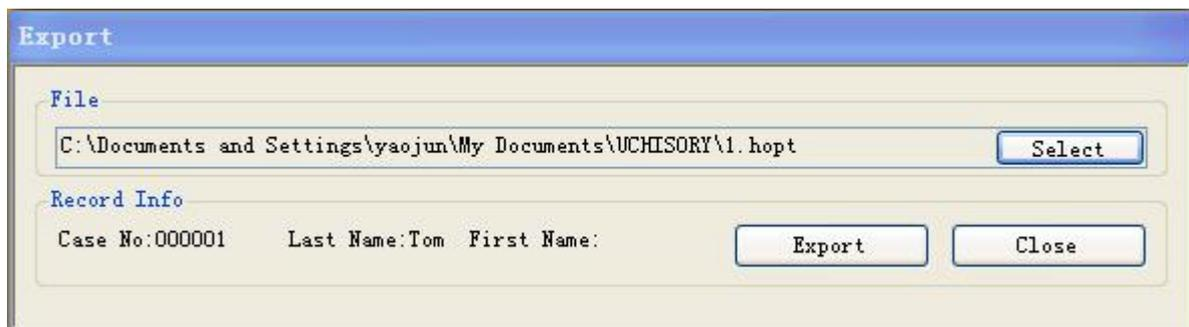

Figure 5.8 Export record
- ◇  "Export": click on this button to export patient data, as shown in figure 5.8. It's recommended that the patient's data should be saved and exported time to time.